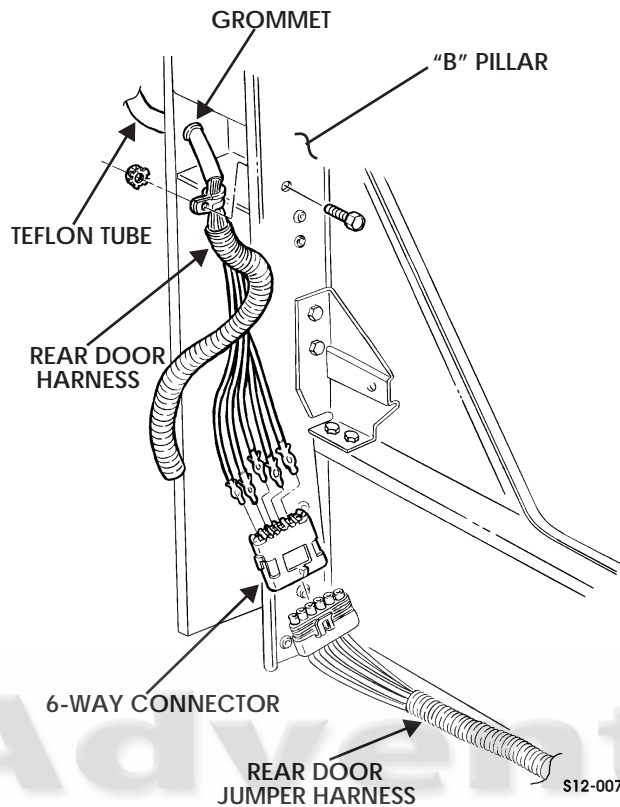

Figure 13-89: Rear Door Harness and Rear Door Jumper Harness
3. Route harness through B-pillar rubber grommet (Figure 13-89).